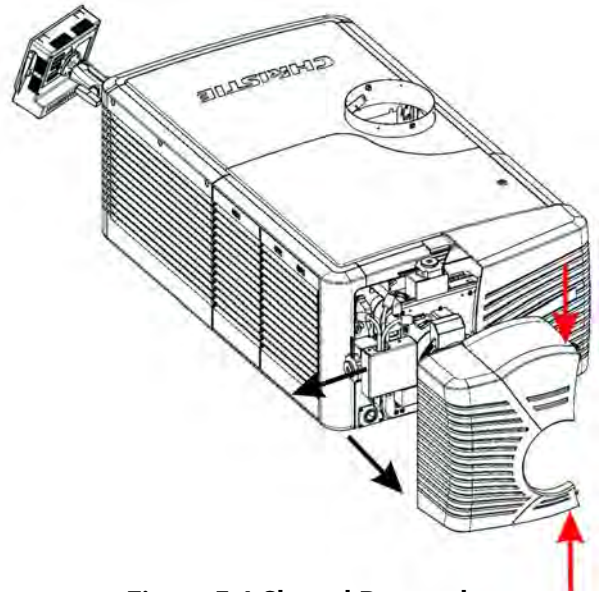

Figure 5-1 Shroud Removal
1. Using finger pressure, push down on the locations specified (Red Arrows). See **Figure 5-1**.